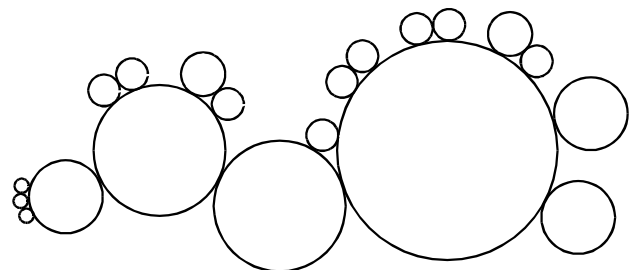

Figure 11. Garnett
*The Garnett.* Garnetting allows for extremely high throughputs with very little individualization of fibers. The notable differences between the garnett and the heavyweight nonwovens roller-top card are the fancy roll and the fancy strippers (Figure 11). The high-speed fancy roll transfers